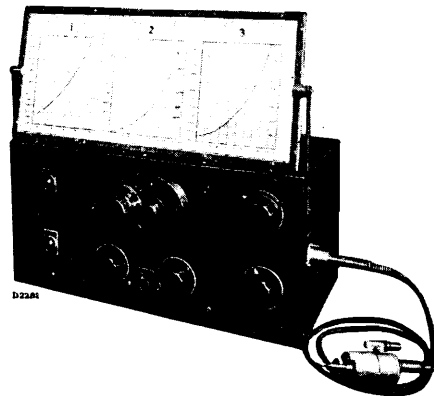

Fig. 1.
1. Service oscillator GM 2880F (see Fig. 1).